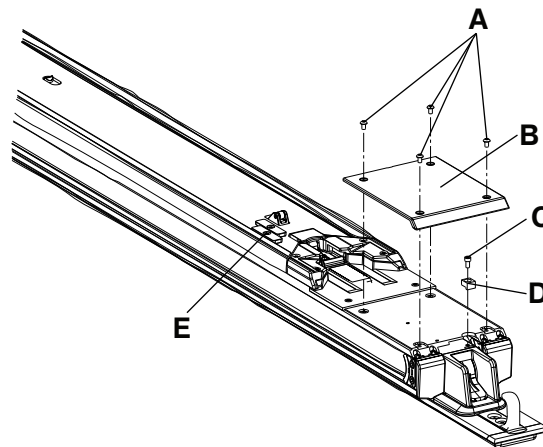

Figure 9 – Foot end transfer components
3. Using a T25 Torx driver, remove the four screws (A) that secure the foot end transfer wear pad (B) to the transfer extrusion (Figure 9). Save the screws.
4. Using a 5/32" hex wrench, remove the screw (C) that secures the trolley magnet activator (D) to the anchor extrusion (Figure 9). Save the screw and trolley magnet activator.
5. Slide both transfer lock triggers (E) to extend and pull the transfer off of the anchor completely (Figure 9).